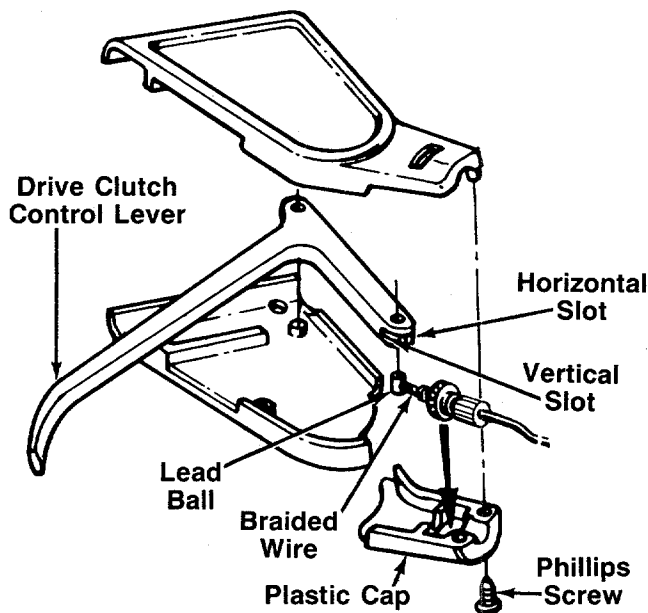

FIGURE 8.
3. Make certain the adjustment wheel is threaded onto the cable as far as possible as shown in figure 8. Place the adjustment wheel into the clutch control housing.
4. Secure the plastic cap to the clutch control housing using the two Phillips head screws. See figure 8.